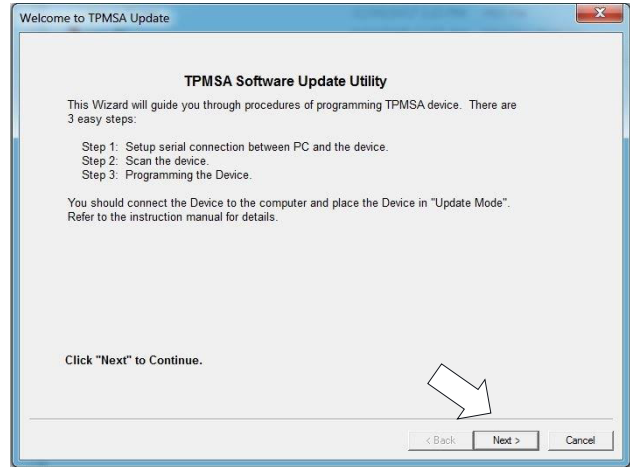

Figure 4 – Welcome Screen
- Follow the instructions and prompts provided by the software update program on the PC. The welcome screen is shown in Figure 4. Select the “Next” button to begin the update process.